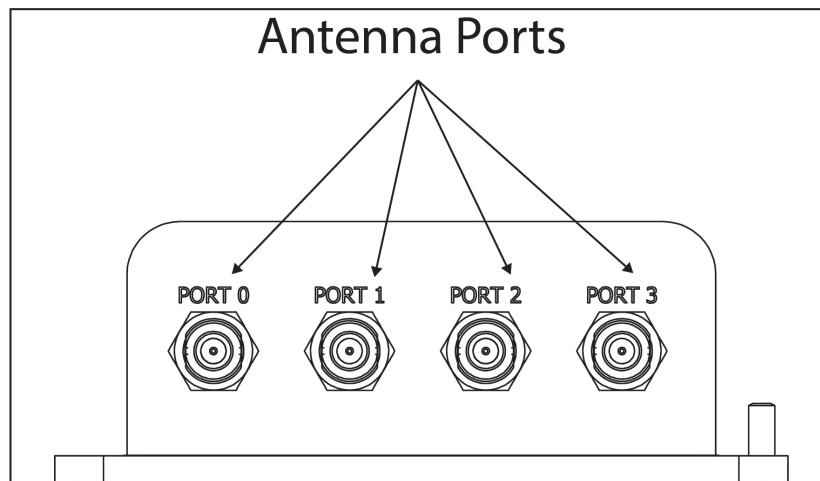

Figure 11 MPRX Showing Antenna Ports
3. Connect the other end of the RF interface cable to the appropriate antenna port on the end of the MPRX. Refer to Figure 11.